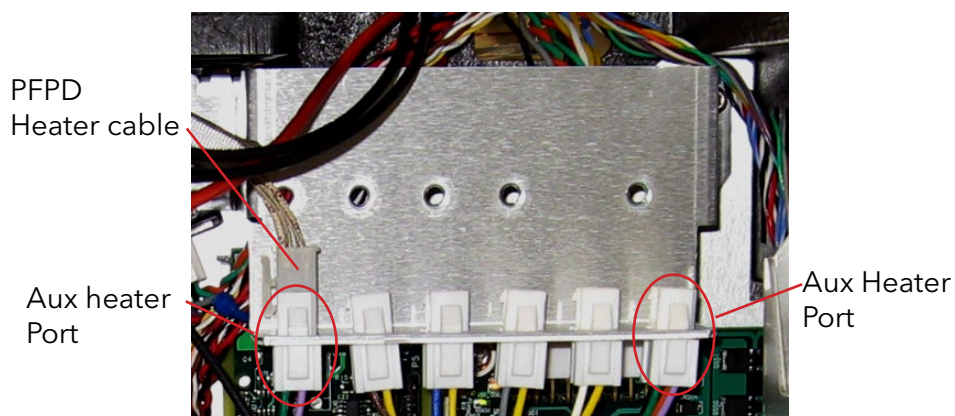

Figure 3.7. Installed Aux Temperature Zone Bracket
5. Plug the larger 2 x 2 heater sensor connectors (P1,P2) into the outside slots and the smaller 1 x 2 valve driver connectors (P3 to P6) into the four middle slots (refer to Figure 3.7).